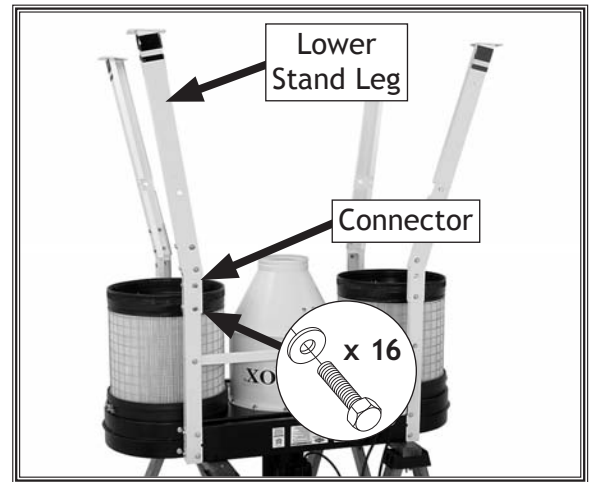

Figure 16. Lower stand leg attached to the leg connector.
- Slide the four lower stand legs onto the leg connectors, then connect them with (16) $\frac{3}{8}$ "-16 x $\frac{3}{4}$ " hex bolts and (16) $\frac{3}{8}$ " flat washers, as shown in **Figure 16**.